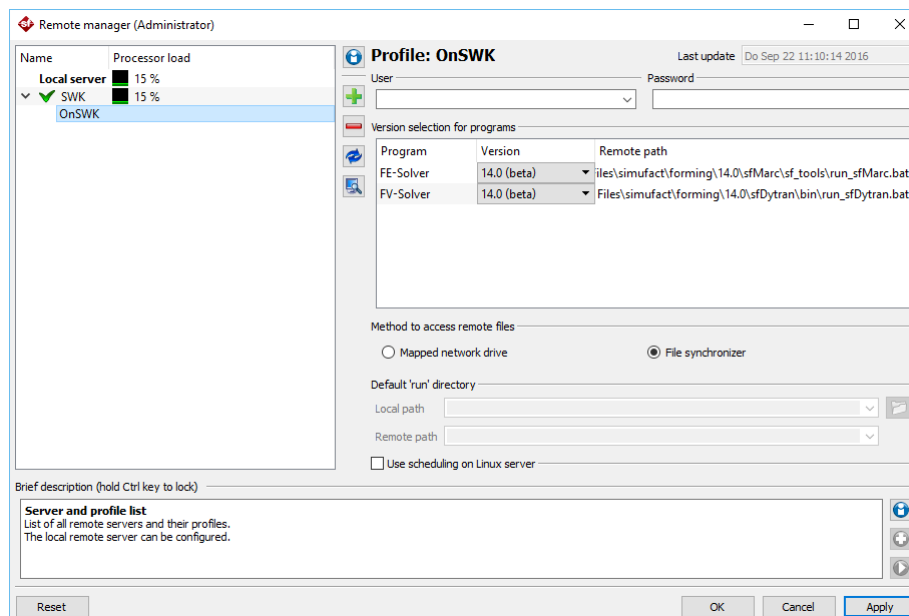

Figure 2.4. Adjusting the profile of the new server in the remote manager
If the CLIENT uses a **Mapped network drive** (Figure 2.4), the drive needs to be mapped as a network drive by the CLIENT. The CLIENT needs access through the network to this working directory, so the directory has to be shared in the network. Grant read and write permissions to all users of the CLIENT who want to use the SERVER.
3. If you want to use the setting **Mapped network drive** Figure 2.4, you have to map the working directory of the SERVER as a network directory (see Section 2.2.2, step 3 and step 7). After successful mapping you should be able to access the working directory of the server through the local path (here: R:\). Make sure that your user has write permissions on the mapped working directory. This step is not necessary if you only want to use the remote **File synchronizer**.
6. Select the profile of the SERVER you just entered (here: OnSWK) and change the settings as follows (Figure 2.4):